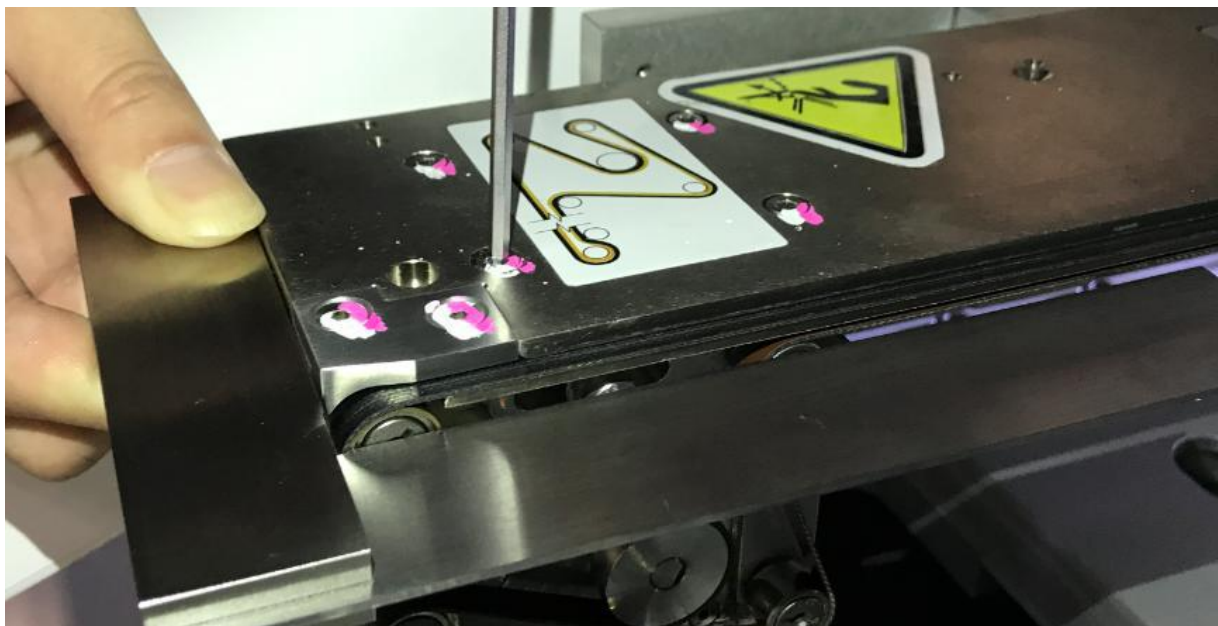

Figure 16 Adj Rail Mount Pulley Alignment
- b) Place L-ruler & Align Mount Pulley assembly as below Figure 16. Align Mount Pulley perpendicular with Adj Rail. Next, Tighten 4 x Screws